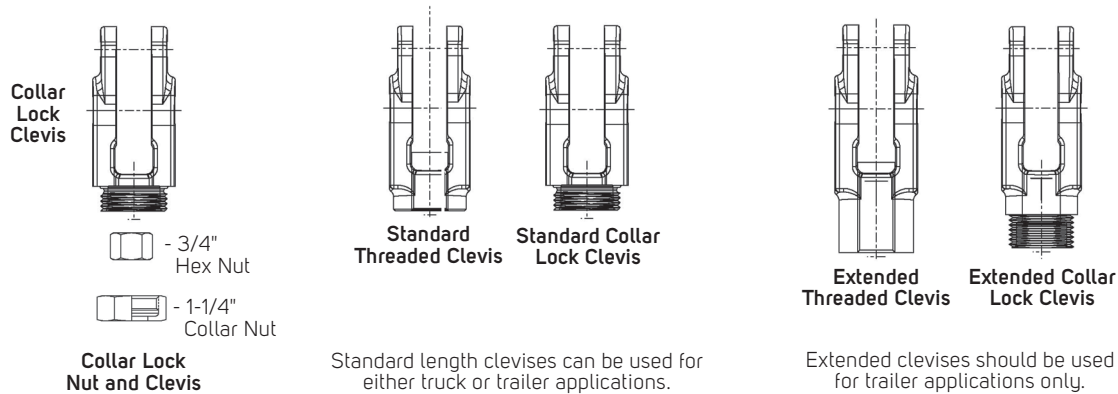

Figure 1 - Clevis Type - 1.020" pin center distance
- Refer to Figure 1 and determine if your Gunite slack adjusters are equipped with the threaded clevis or the collar lock clevis (extended or standard length with 1.020" pin center distance). Refer to the correct installation procedure for the style of clevis used on your Gunite slack adjusters.